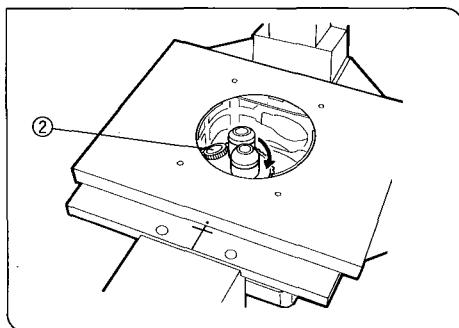

Fig. 20
★ In the inverted microscope, the front lens of the objective faces upward, and is more exposed to contamination than the objective of an upright microscope. Therefore, if there are empty sockets in the nosepiece, attach the dust caps (2) provided. (Fig. 20)